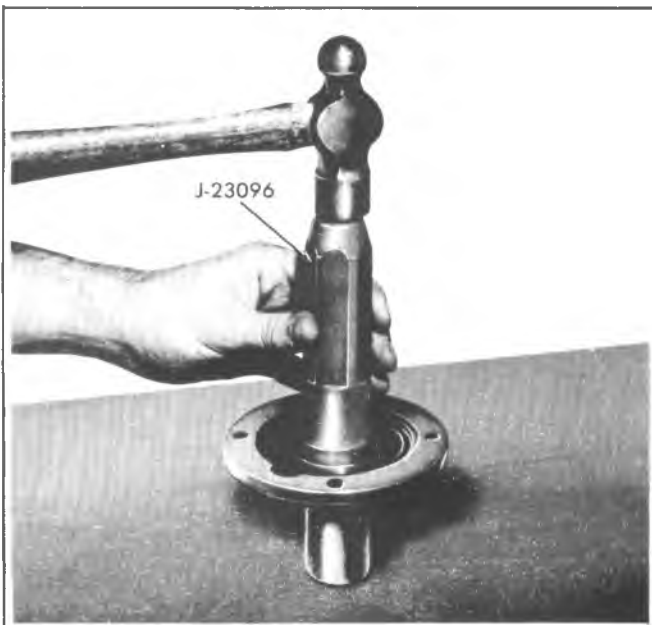

Fig. 7B-15J—Installing Bearing Retainer Oil Seal
8. Install synchronizer hub to mainshaft snap ring (Fig. 7B-10J).